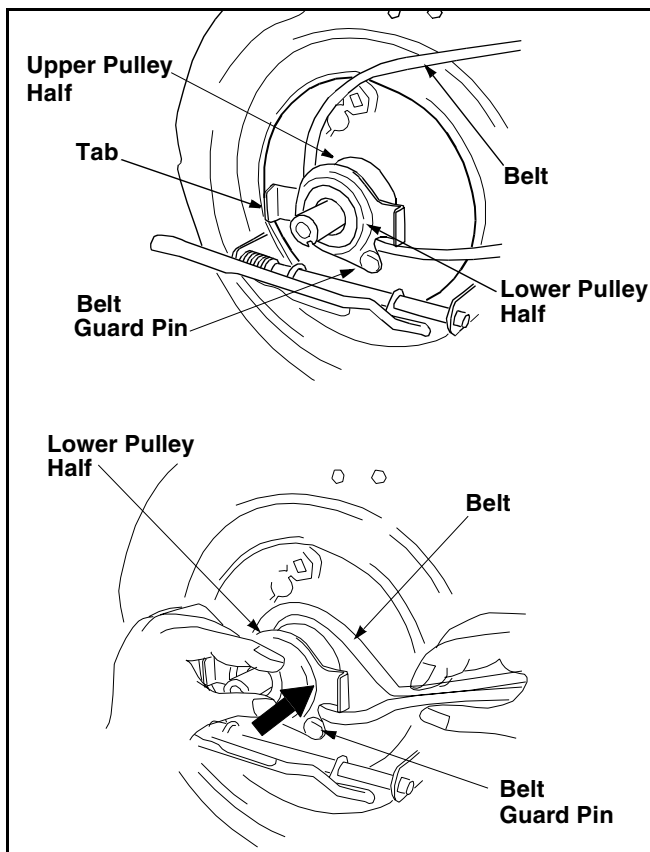

Figure 20
- Place the belt between the two pulley halves on the crankshaft. Make sure to route the belt inside the belt guard pin. See Figure 20.
- Pinch both sides of the belt together so that the belt is not in the pulley groove, and the lower pulley can be pushed towards the engine. See Figure 20.